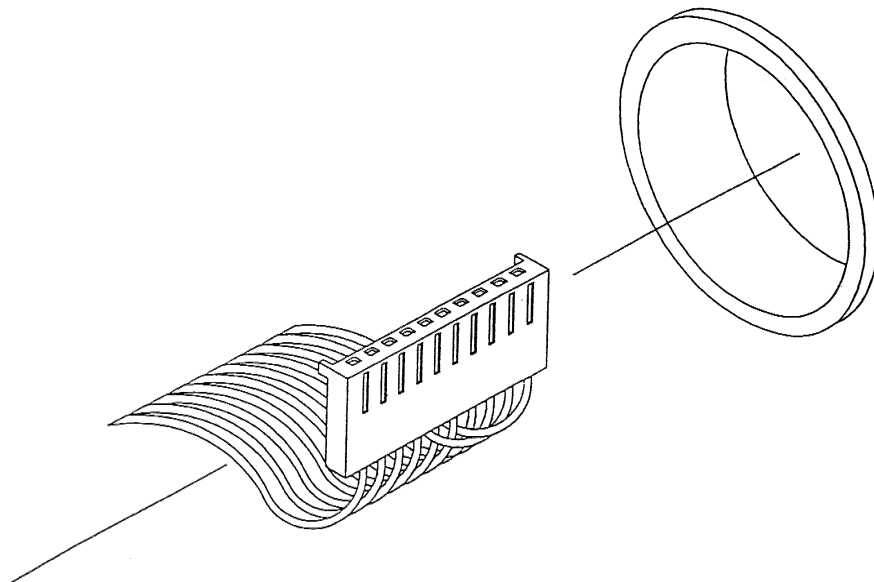

Figure 1
*Note: Folding the cable lengthwise with the connector will facilitate getting the connector through the hole in the cabinet. See figure 1 below. Use of needle-nose pliers may help.*